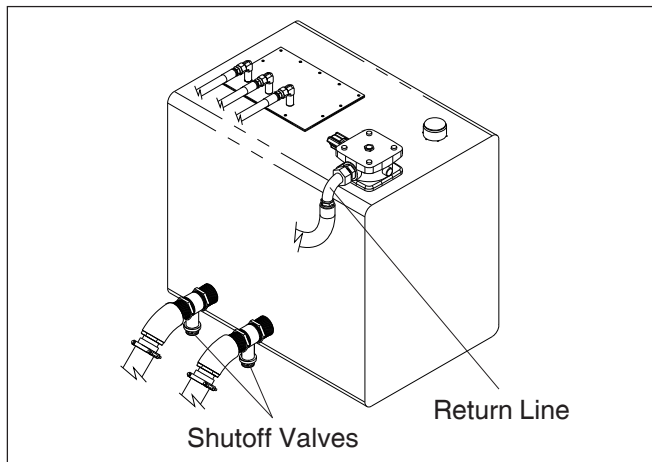

Figure 6.4 — Hydraulic Reservoir
1. Close the shutoff valves below the oil reservoir in the suction line of the pump (refer to Figure 6.4).
4. Locate the return line that runs from the washer platform to the return line filter (refer to Figure 6.4). Disconnect this hose at one end, and cap or plug the reservoir side of this connection.